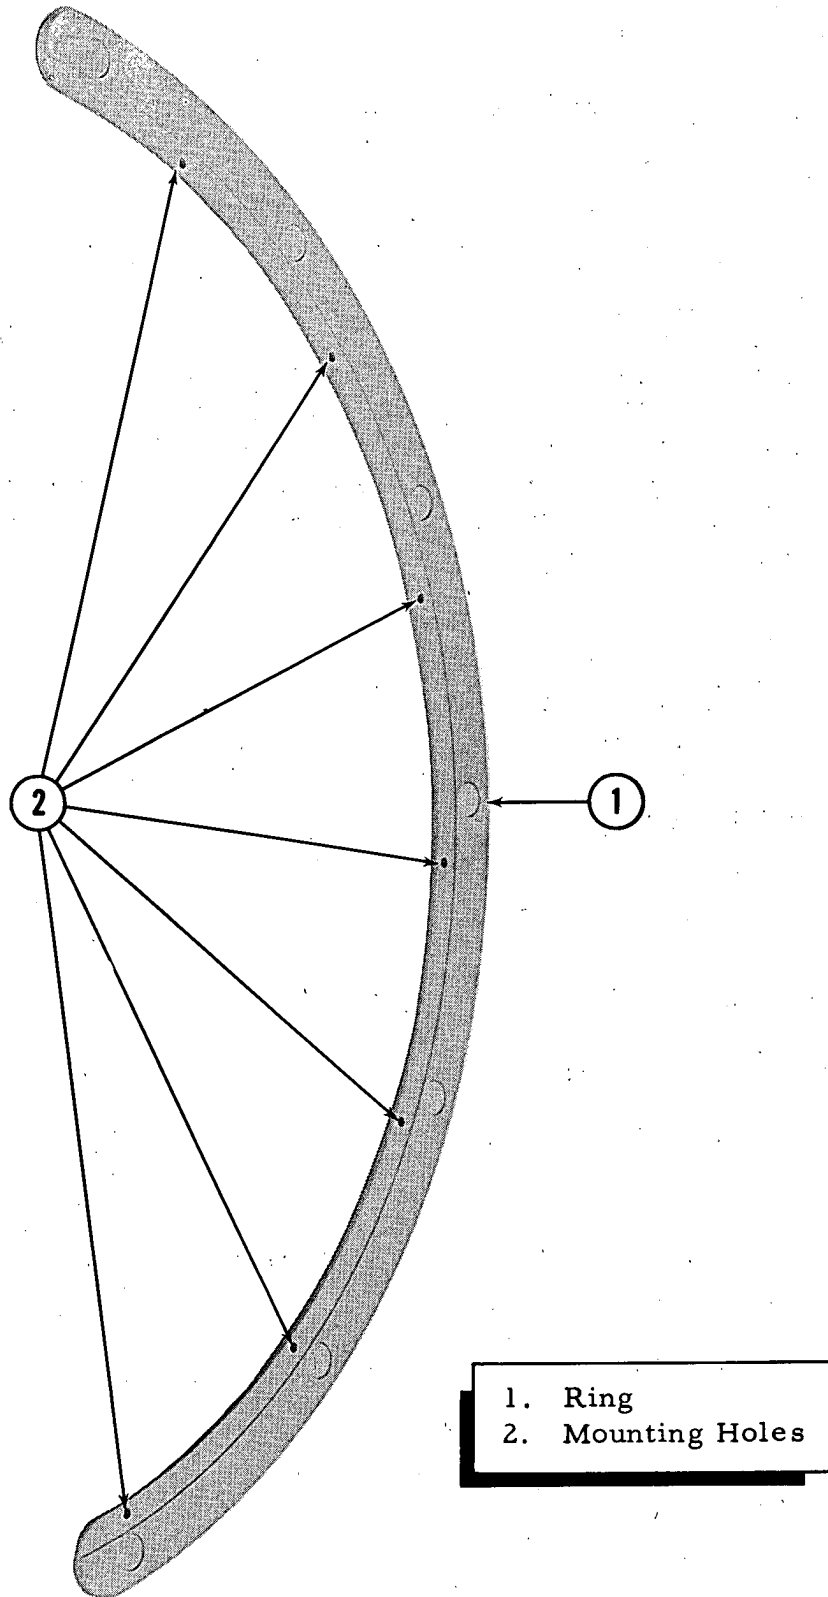

Figure 1-5. Detent Ring
e. Detent Ring. (See figure 1-5.) The detent ring is an arc-shaped aluminum alloy ring which is bolted directly to the lens cone. As noted in the above paragraph, the ring acts as the pressure plate for the brake shoe.